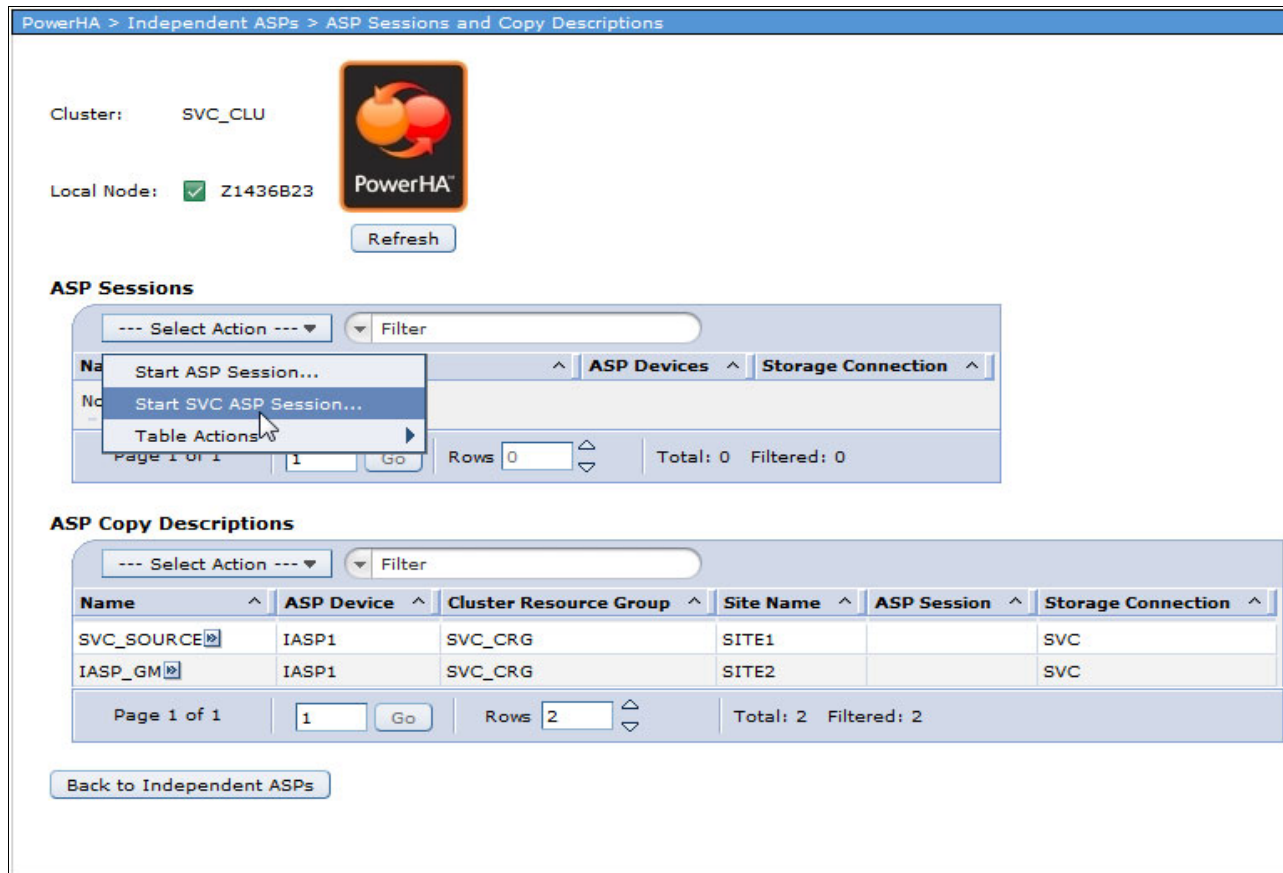

Figure 4-57 Three-node cluster: Defining a SAN Volume Controller ASP session
19. Define an ASP session that tells PowerHA the relationship between ASP copy descriptions. Select **Start SVC ASP Session** from the Select Action pull-down menu in the ASP Sessions section, as shown in Figure 4-57.